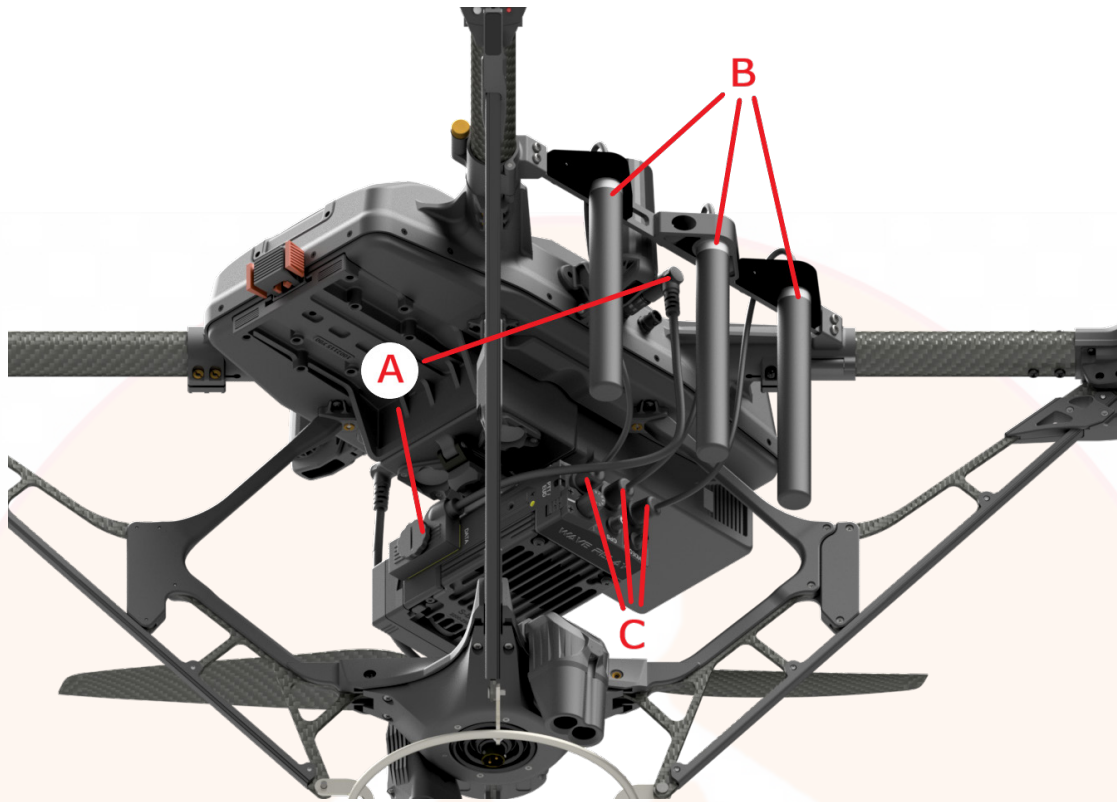

Figure 26: MPU5 Radio Installation 2
4. Connect the Ethernet Cable Assembly to the side of the radio labeled **DATA** and plug it into the aircraft **E1** connector (**Figure 26, A**).
5. Connect one Antenna Bracket with three Octane Antennas (**Figure 26, B**) to the left side of the aircraft (see Bracket and Antenna installation instructions above).
6. Connect **TNC** Female to **RP-TNC** Male Adapters to the Octane Antenna cables and then connect them to the radio's 'Antenna Chain' connectors; insert each antenna cable into the connector closest to it (**Figure 26, C**).